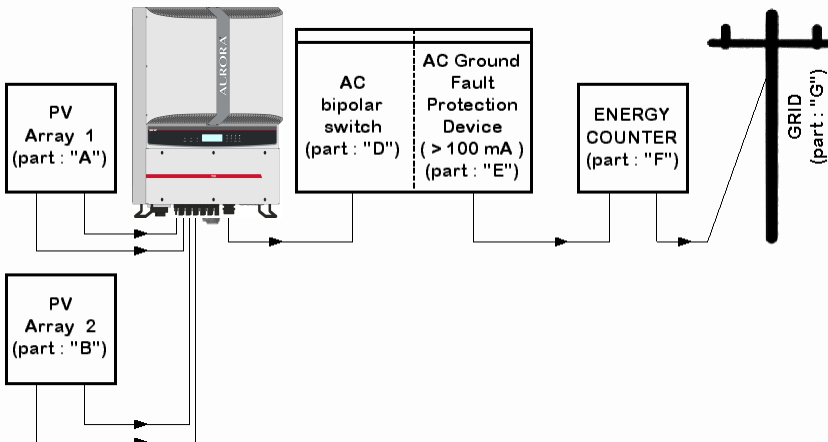

Fig. 8 - Connection diagram
STEP 1 If the inverter is connected to the power supply grid, DISCONNECT IT by opening the switch indicated as Part “D” in Fig. 8.
Step 1: Disconnect the inverter from the AC grid by turning off the AC switch, "part D" in Fig. 8. Also turn off the DC part by using the DC switch (integrated in -S models or external).